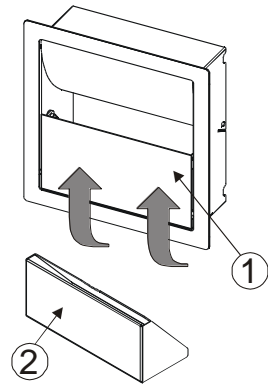

Figure 4– Container
The container (2) can easily be removed from its seat. To do so, lift the door (1) at the bottom and extract the container (see fig.4).